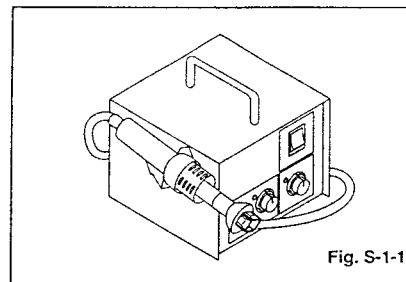

Fig. S-1-1
- Prepare the Hot - Air Flat Pack - IC Desoldering Machine, then apply hot air to Flat Pack - IC (about 5~6 seconds). (Fig. S-1-1)